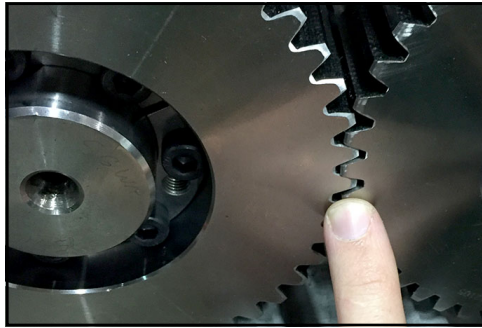

Figure 236 - Align gear
- Align the loose gear with the drive shaft gear as shown in Figure 236.